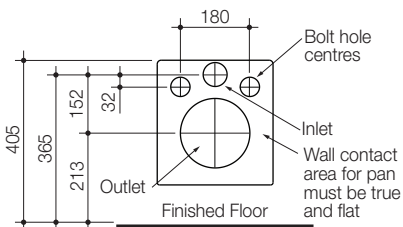

Fig. 3
- 1- Install Caroma bracket and pipework to specified dimensions, as detailed in **Fig. 3**.